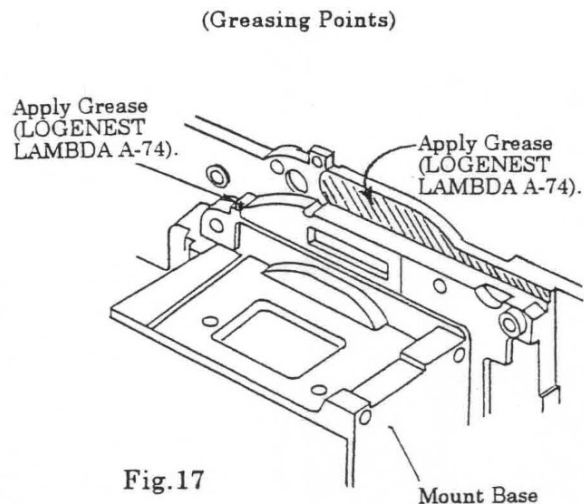

Fig.17
- 1) Apply Grease (LOGENEST LAMBDA A-74) to the slide surface of the FL Unit Ass'y on the back of the Mount Base. (See Fig. 17)